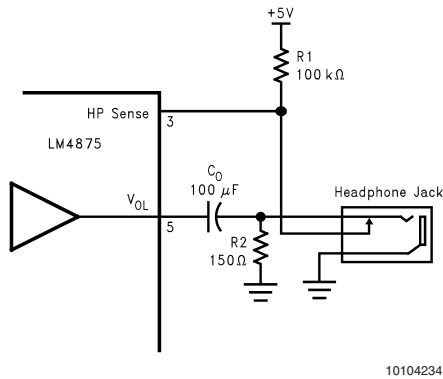

FIGURE 3. Headphone Circuit
*Figure 3* shows the implementation of the LM4875's headphone control function. With no headphones connected to the headphone jack, the R1-R2 voltage divider sets the voltage applied to the HP-Sense pin (pin 3) at approximately 50mV. This 50mV enables the LM4875 and places it in bridged mode operation.